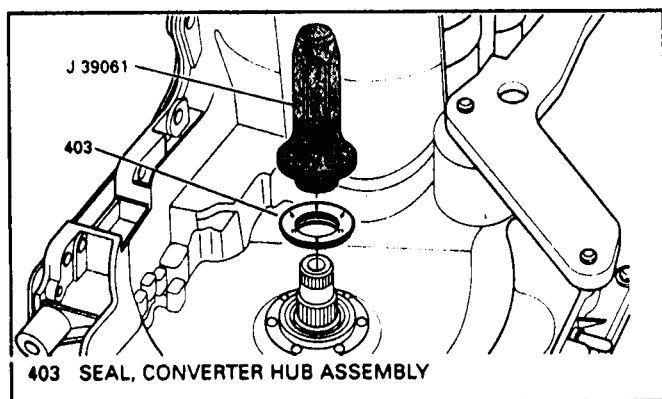

Figure 94
14. Install converter seal into transaxle case using J-39061 seal driver, shown in Figure 94.